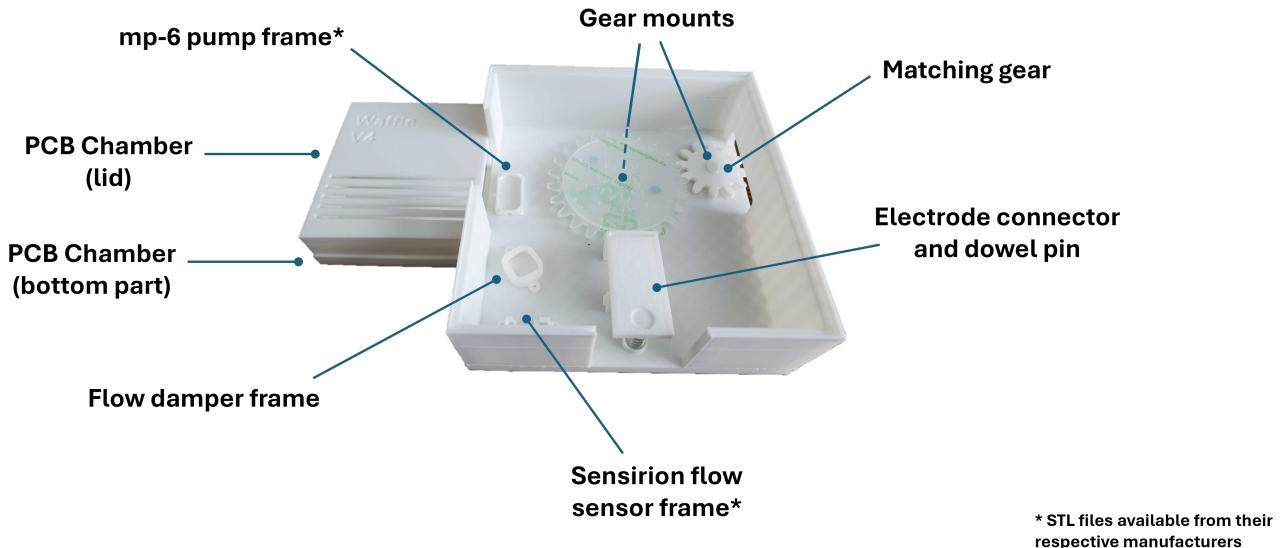

Figure 2: Parts to be 3D printed for assembly
- 3D printed device enclosure (fluidic and electronic chambers and lids), electrode connector, frames for mp-6 pump, flow sensor and mp-damper - Figure 2.
1. First download the STL files from the Github page for the parts listed in Figure 2. The frames for the flow sensor and mp-6 pumps may be found on the respective manufacturer's website (Bartels Mikrotechnik and Sensirion).
5. If printing the electronic and fluidic enclosures separately (due to size limitation of 3D printing bed), glue these together using loctite superglue as shown in Figure 2.